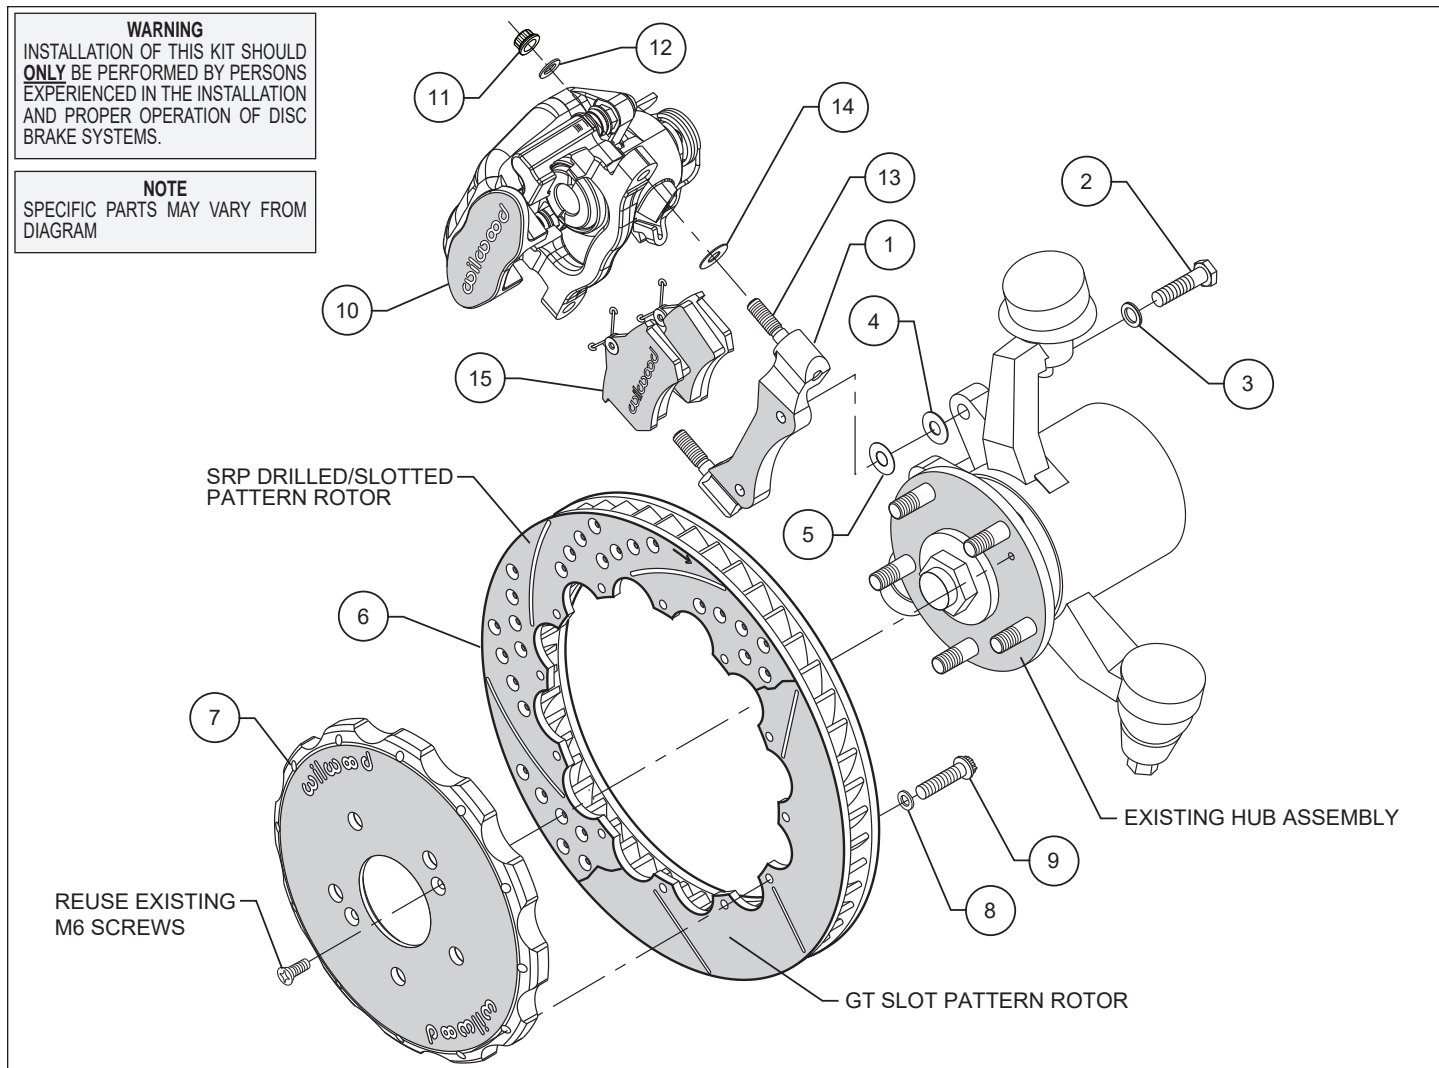

Figure 1. Typical Installation Configuration
- The caliper mounting bracket (1) should be installed first with clean, dry threads on the mounting bolts. Install the bracket (1) on the outboard side of the hub assembly by sliding bolt (2) from the inboard side of the hub assembly through washer (3) through the existing OEM caliper mounting holes and thread into caliper mounting bracket (1) (see figure 1). Place one shim washer (4) and one shim washer (5) between the hub assembly and the caliper mounting bracket (1). The mounting bracket (1) must tighten squarely against the outboard side of the hub assembly face. Inspect for interference from casting irregularities, machining ridges, burrs, etc. Use one shim washer (4) and one shim (5) between the mounting bracket (1) and the hub assembly during initial trial fitting.